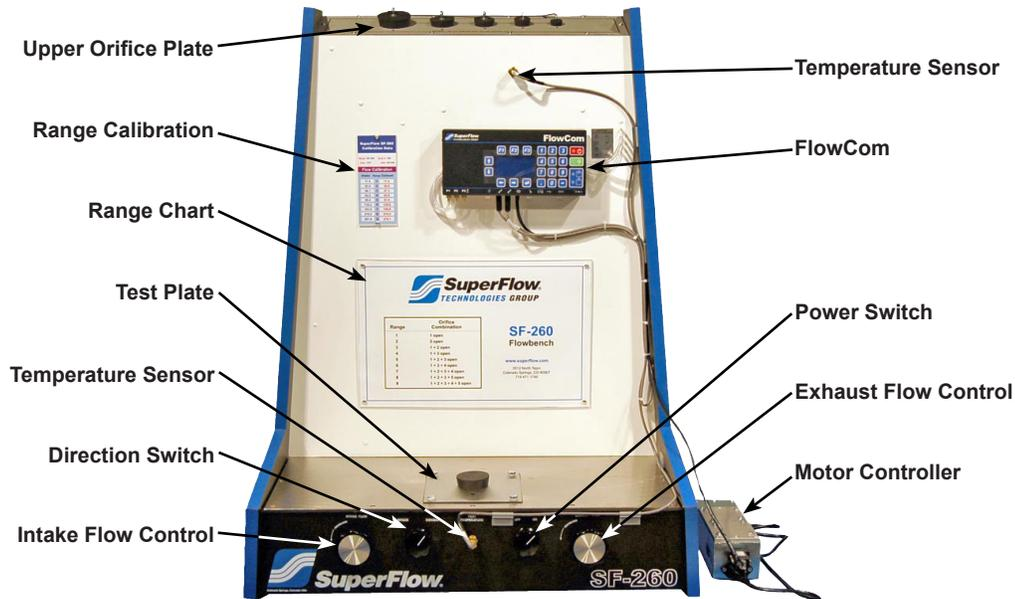

Figure 4.1: SF-260
2. Place the FlowCom into position as shown in "Figure 4.1: SF-260" using the supplied Velcro™ strips.
4. If not already installed, install the temperature sensors into the provided holes at the top and bottom of the flowbench as shown in "Figure 4.1: SF-260".